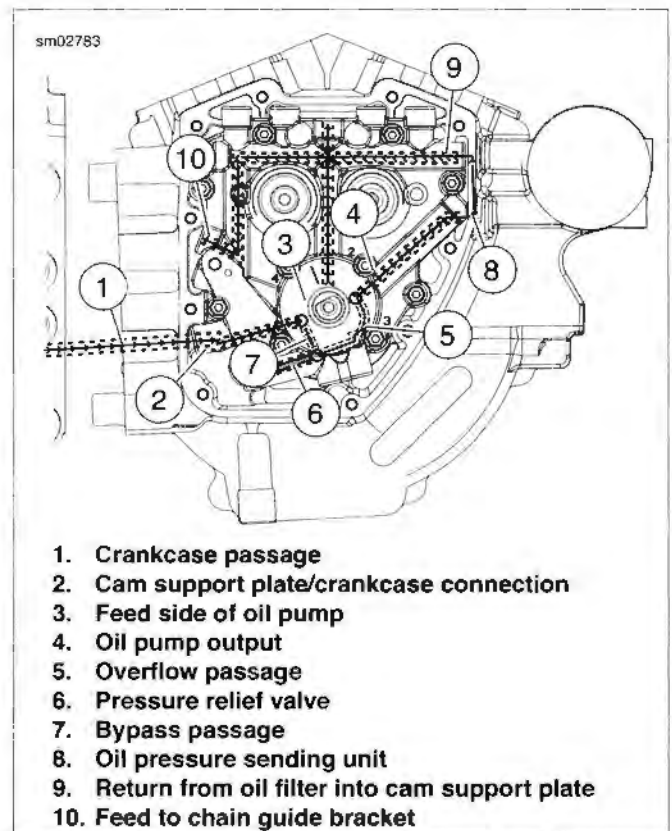

Figure 3-2. Cam Support Plate Oil Flow
See Figure 3-2. Running through a passageway in the crankcase (1), oil exits a hole in the crankcase flange and enters a hole on the inboard side of the cam support plate (2). Passing through a channel in the cam support plate, the oil enters the feed side of the oil pump (3). See 3.5 OIL PUMP OPERATION. The feed gerotors of the pump direct the flow up a second channel in the cam support plate.
After circulating through the oil filter, the flow of oil is directed back into the crankcase through the spigot in the oil filter mount. See Figure 3-2. Exiting a passageway in the crankcase through